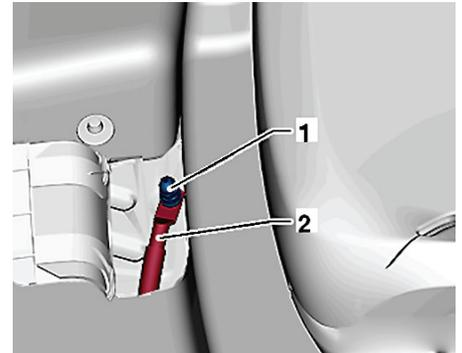

Fig. 2 Ground cable removal
6. Remove cap nut (1) and ground cable (2) from stud bolt, Fig. 2. Secure ground cable so that it cannot fall down.
11. Install ground cable (2) on stud bolt and **torque** cap nut (1) to 15 ft. lbs., Fig. 2.